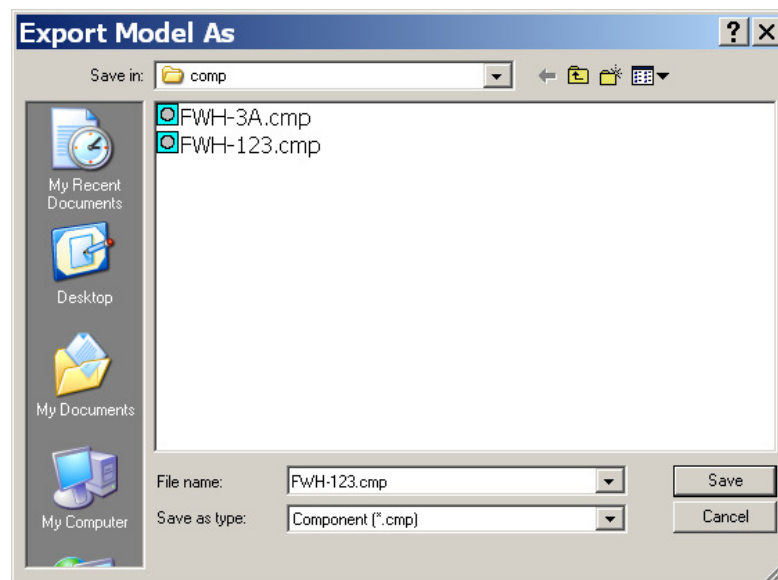

Figure 6. Export Model As Dialog
- o **File | Export** displays the **Export Model As** dialog shown in Figure 6. Type the desired name for the *cmp* file in the **File name:** field. There is no need to add the *.cmp* extension to the name since the program will add it automatically. The current *project.cmp* file displayed in MakeComp will be exported or *saved* with the filename you choose. This is handy when you want to share a common *cmp* file between two or more projects.